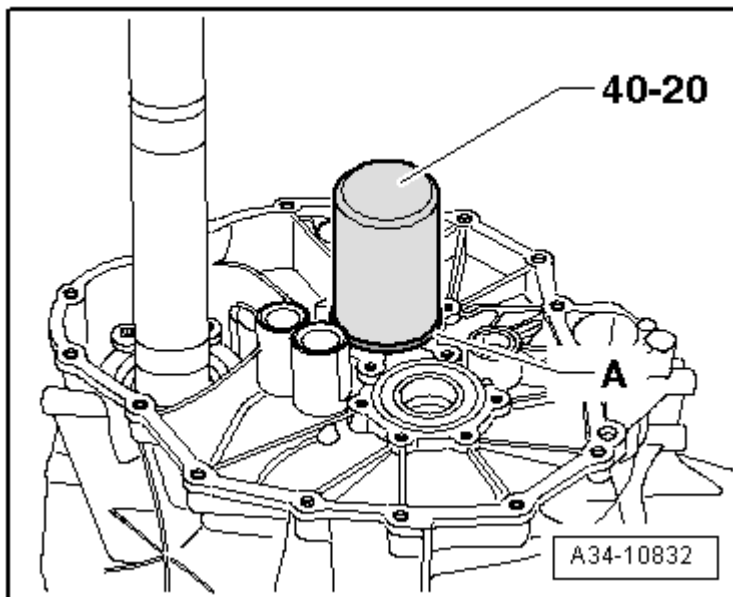

Fig. 76: Installing Output Shaft Ball Bearing -A- In Transmission Housing
- Installing, refer to Fig. 76